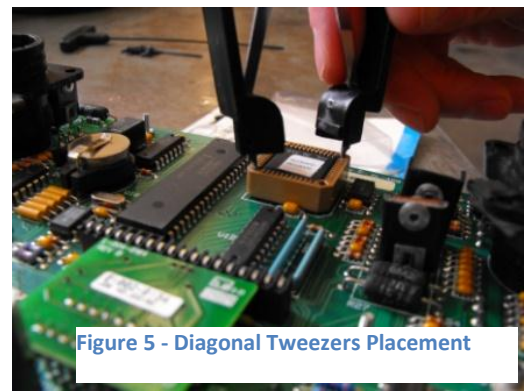

Figure 5 - Diagonal Tweezers Placement
6. Place the tweezers ends of the chip extractor tool diagonally across the chip (Figure 5).